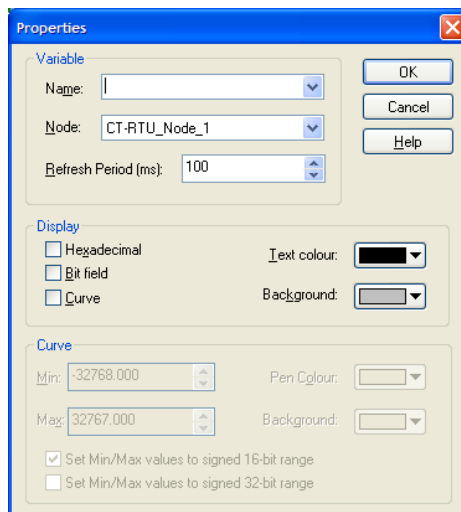

Figure 7-10 Add new item to the Watch Window
- Click the 'New Item'  icon and the new item window will open as shown in Figure 7-10.